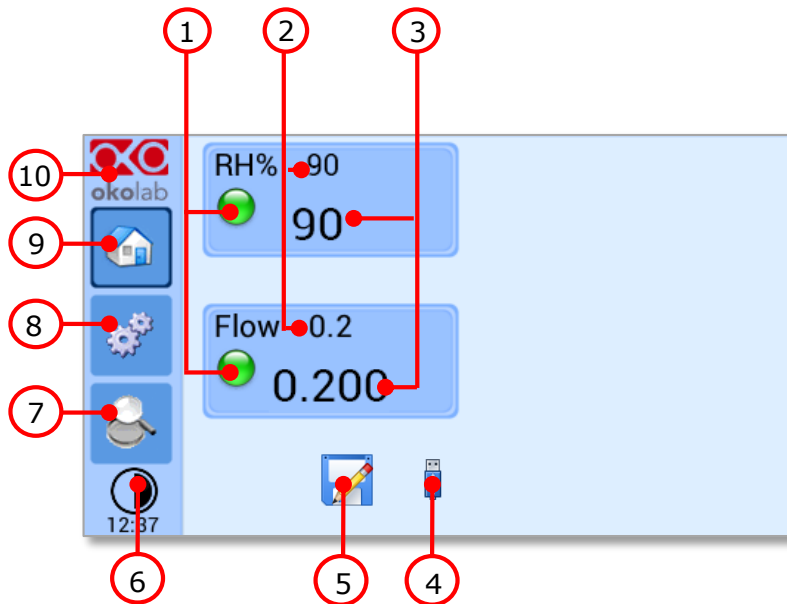
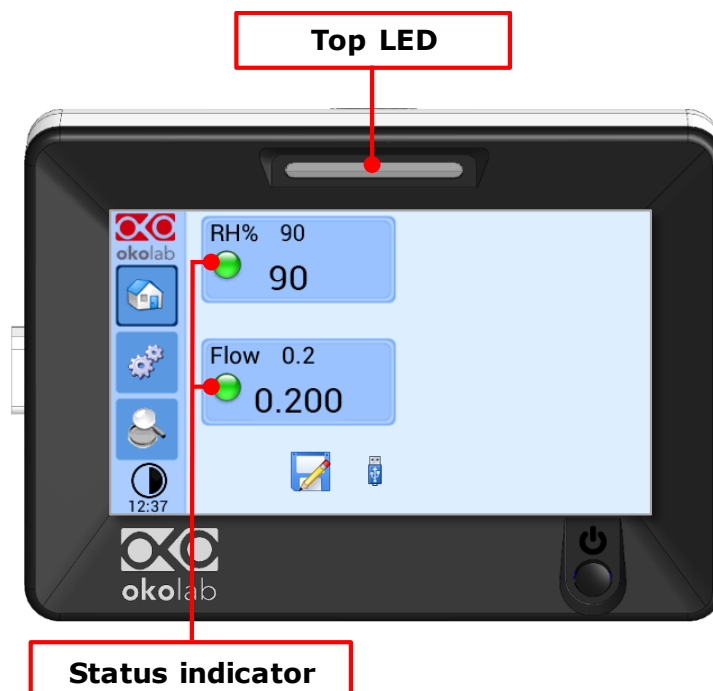

Figure 18. Homepage of HM-ACTIVE-STANDALONE Touch Screen Display.
Figure 21. Status Indicator and TOP LED.
11. Once the system has been initialized the Status led on the front of HM-ACTIVE-STANDALONE will stop blinking and will turn steadily on. The Homepage will appear on the touch screen, the color of the Status Indicator (see 1 in Figure 18 and Figure 21) on the tabs will be yellow at the start.
You can read the current value of gas Flow rate on the corresponding tab on the Home page (3 in Figure 18).
14. The Status Indicator on the Home page becomes green when the Setpoints are reached and are stable (see 1 in Figure 18 and Figure 21).
Note ► After any change in Setpoint value, HM-ACTIVE-STANDALONE enters into a transient regime, the Status Indicator and the TOP LED (see Figure 21) turn yellow (see paragraph 8.1.2). During the transient regime, HM-ACTIVE-STANDALONE will not trigger on alarm.
HM-ACTIVE-STANDALONE can assume four different status, which are represented by the colors assumed by the Status Indicator and by the TOP LED (see Figure 21):
Tip ► The TOP LED follows the same color code as the Status Indicator (see Figure 21). To enable/disable the TOP LED follow the instruction reported in paragraph 8.2.2.3.